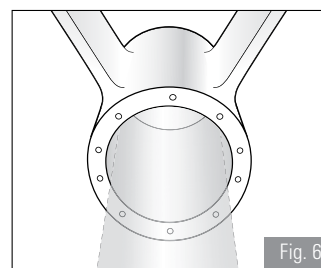

Fig. 6
3. Clean housing properly (see Fig. 6).